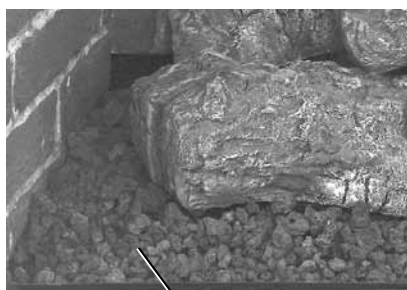

Figure 45
3. Install decorative volcanic stone - Sprinkle the decorative volcanic stone in a pleasing pattern (see Figure 45). The volcanic stone should be placed directly on top of the firebox bottom, along the slope and to the back at the right and left sides of the burner. Position any ceramic fiber liners before placing the stone. Logs can be positioned after the volcanic stone.